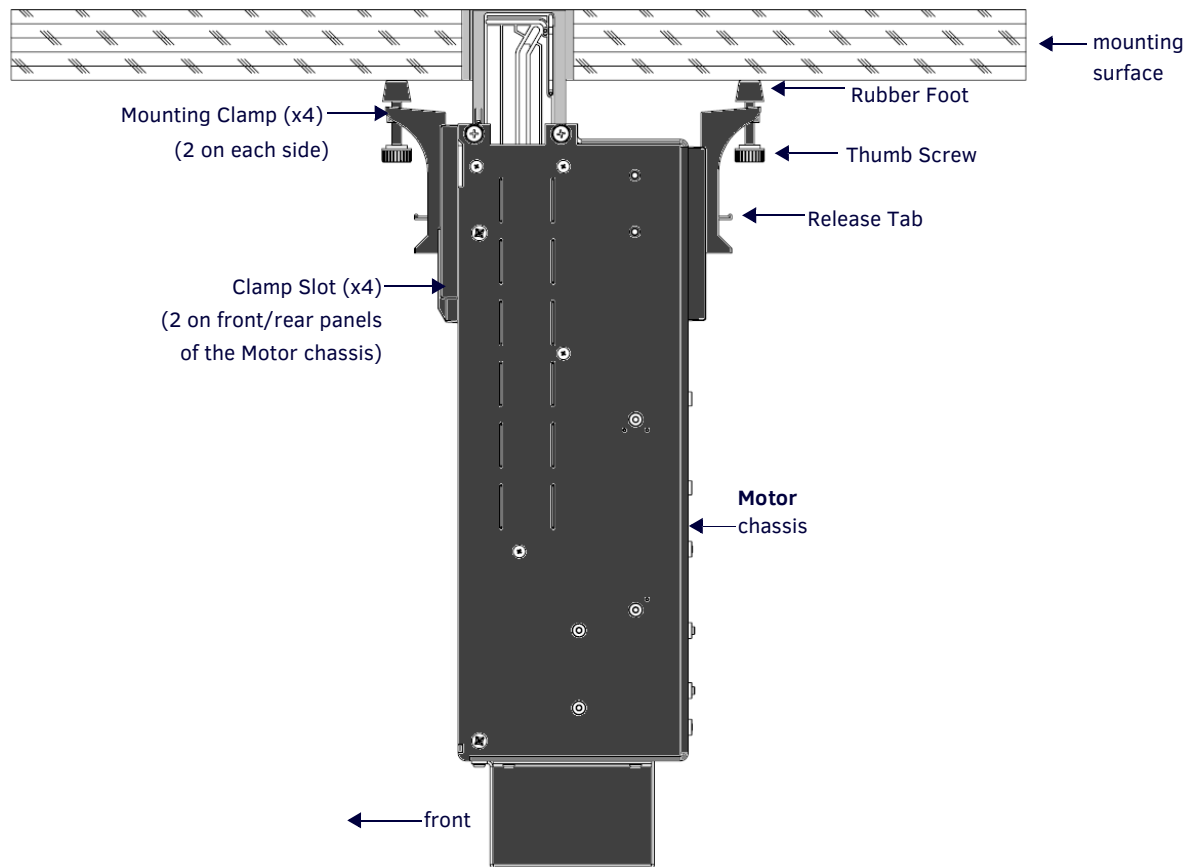

FIG. 16 MXR-1001 - Installed (side view)
- b. Tighten the thumb screws on all Mounting Clamps to secure the MXR-1001 to the surface (FIG. 16):